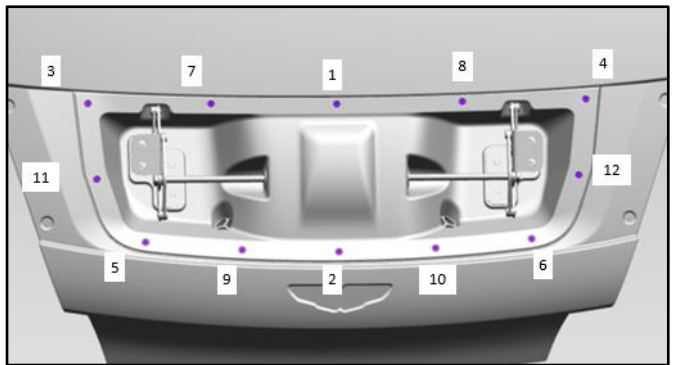

Figure 14
16. Install the new spoiler mechanism in the boot lid. Torque the twelve screws to 2Nm in the order shown. (Refer to Figure 14.)